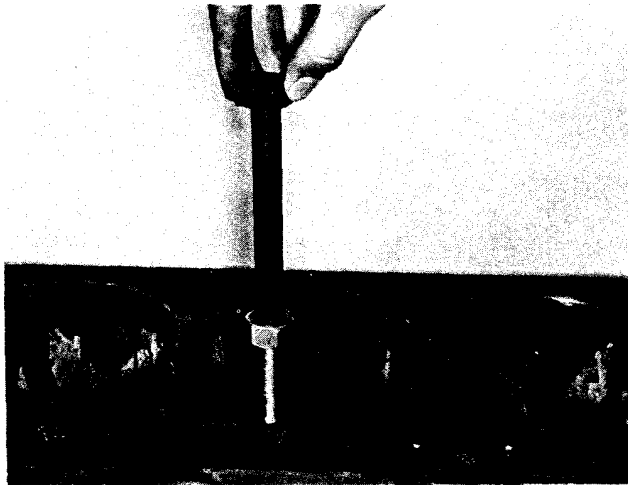

Fig. 1-28, (N101125). Installing thread insert
12. Install thread insert on head capscrew against special nut. Fig. 1-28.